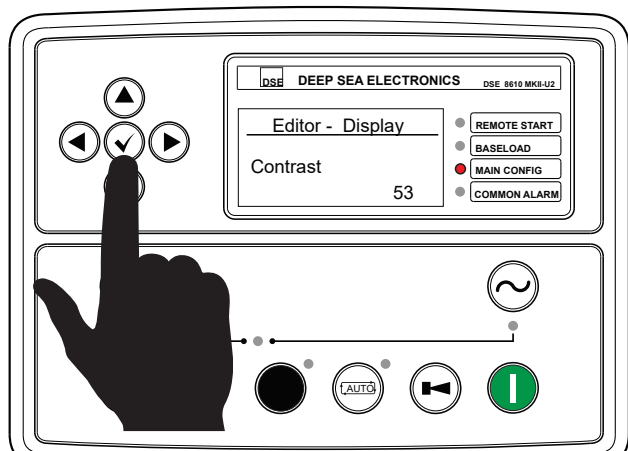

Figure 78. OFF/Check Buttons
3. Press the **CHECK** button to enter the *editor* display menu (Figure 78).